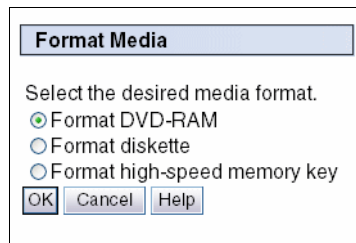

Figure 4-6 Format Media
2. Select **Format Media** in the right window to open the media selection box as shown in Figure 4-6.